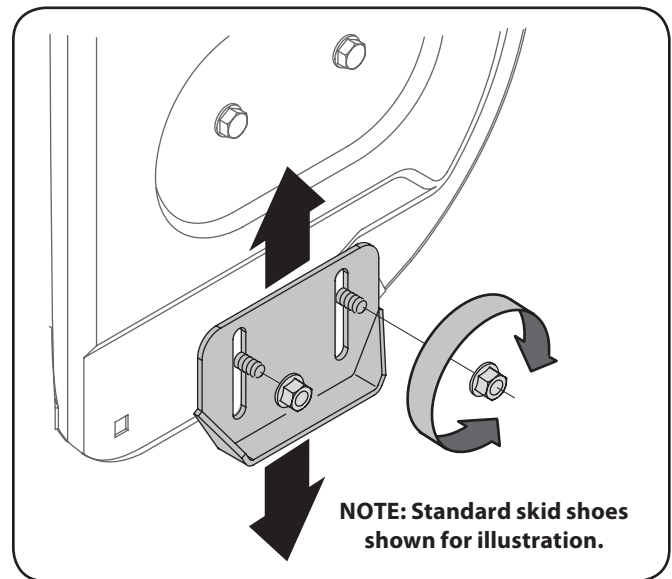

Figure 3-21
1. Loosen the four hex nuts (two on each side) and carriage bolts. Move skid shoes to desired position. See Figure 3-21.